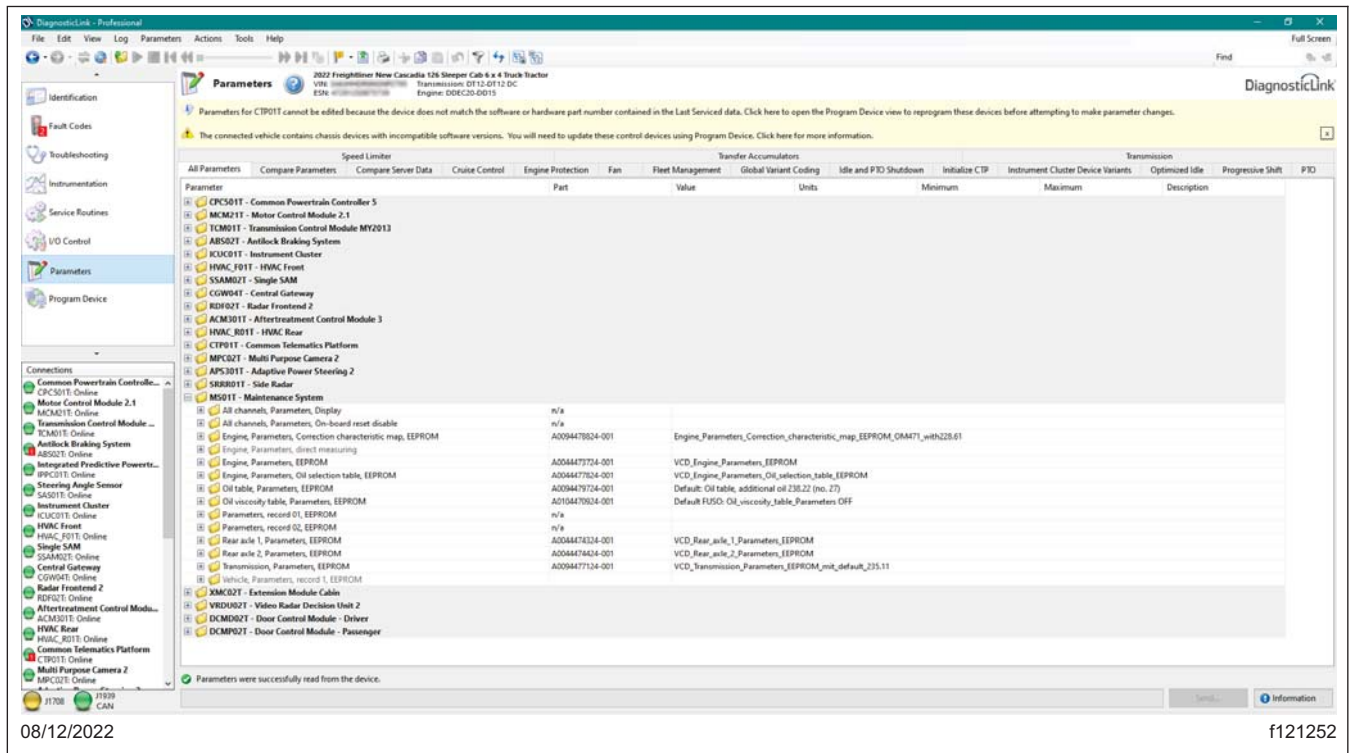

Fig. 2, Navigating to MS01T - Maintenance System
6. After the server data download is complete, go to the 'Parameters' tab. In the 'All Parameters' tab, go to the 'MS01T- Maintenance System,' 'Transmission, Parameters, EEPROM.' See Fig. 2.